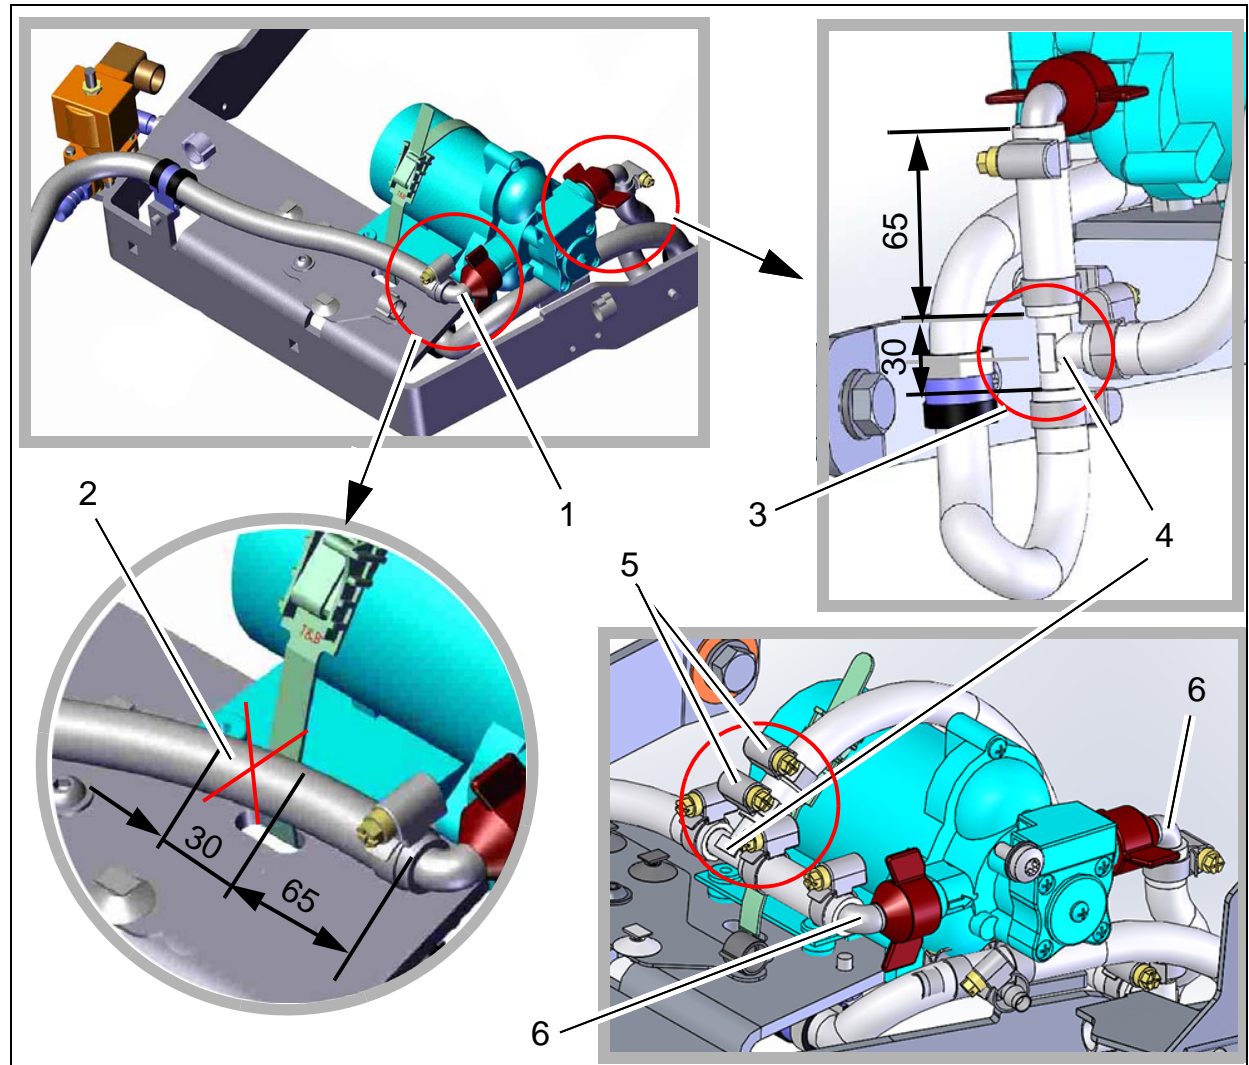

Fig. 3
1. Undo butterfly nut at the pump (Fig. 3/1) and remove elbow union with hose.
2. Cut out a 30 mm piece of the hose after 65 mm (Fig. 3/2).
3. Repeat work operations 1 and 2 on the hose on the opposite side (Fig. 3/3).
4. Insert T-pieces of the pre-installed hose into the prepared hoses as shown in the illustration (Fig. 3/4).
Fit the hose end with the backflow preventer (two hose clamps) to the left-hand side of the pump (Fig. 3/5).
5. Re-attach the elbow unions with hoses to the pump using the butterfly nuts (Fig. 3/6).